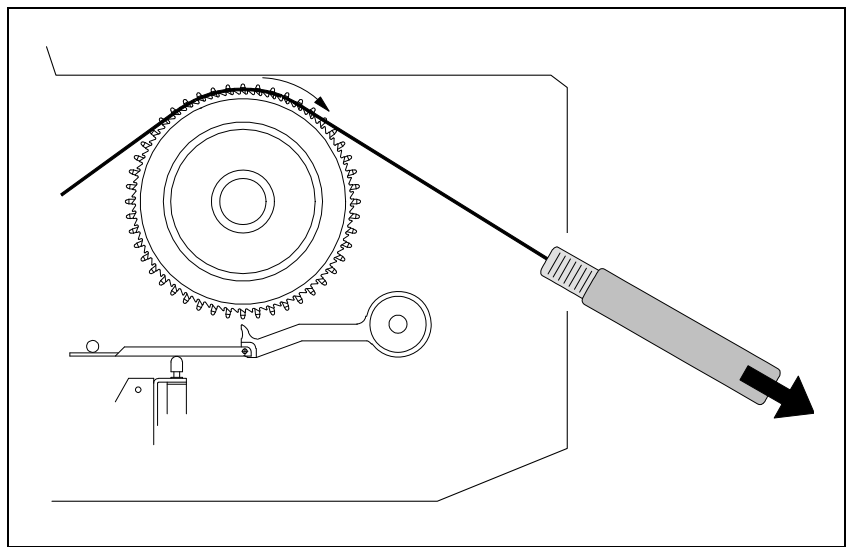

Figure 13-21. Feeder wheel friction measurement.
1. Measure the feeder wheel friction by putting a piece of component tape on the feeder wheel and pull the tape using a dynamometer (see Figure 13-21). The force required to rotate each wheel shall be 1 - 5N.